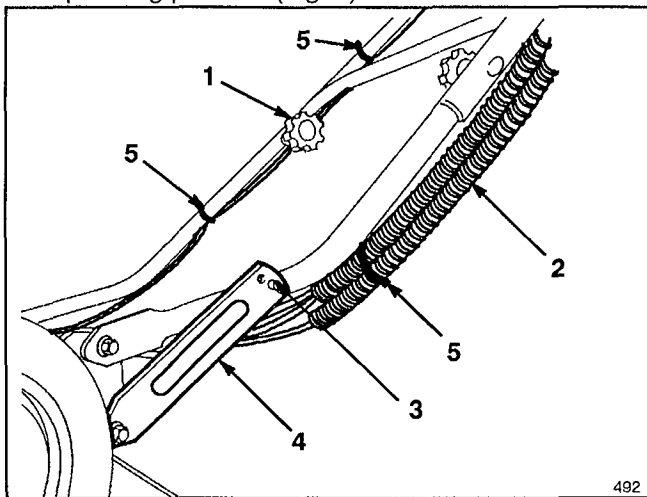

Figure 1
1. Align handle and tighten handle knobs (Fig. 1). Move handle latches slightly outward so they will not be in the way when pivoting the handle backward into the operating position (Fig. 1).
2. Pivot handle backward. Move handle latches inward while snapping handle stud into center hole of handle latch (Fig. 1). If a handle latch does not fit tightly against the handle tube, remove latch from handle stud, bend the latch inward, and reattach to handle stud. Repeat as necessary to ensure a tight fit between latch and handle.
3. Ensure control cables (Fig. 1) are to the rear and inside of handles. Secure cable to right handle with cable ties. Tighten handle knobs securely.
**Note:** If handle height is not satisfactory, adjust by placing handle stud (Fig. 1) into a different hole.